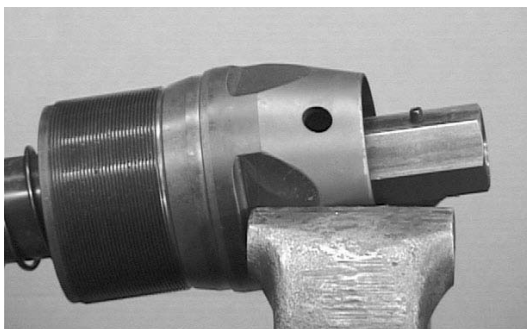

Figure 8-10. Secure End Cap in a Vice
- Place the End Cap (15) in a vice or saddle clamp so the Cone Point Set Screw (17) is accessible. Secure the End Cap (15) tight enough to hold it in place while working. See Figure 8-10.